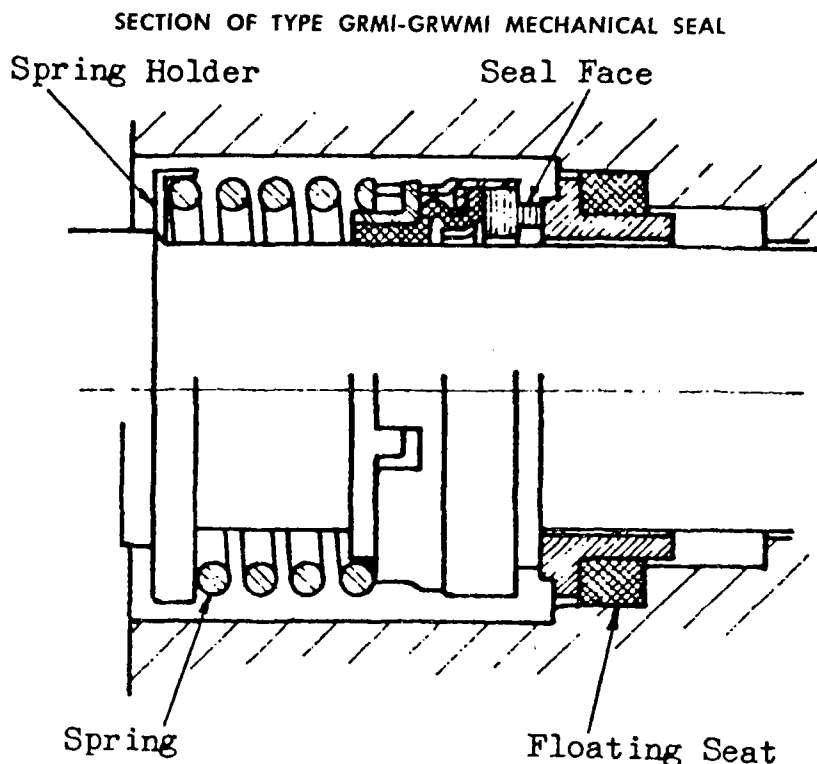

Fig. 17
5. Assemble seal (729) to shaft (1271). Put spring holder and spring on shaft as shown in seal sectional drawing (Fig. 17). Spring must be centered in the holder. (The No. 1½ GRMI requires a 1 in. I.D. x 1¼ in. O.D. x ⅛ in. thick spacer ring behind the spring holder). Oil shaft and slide the bellows and washer as-